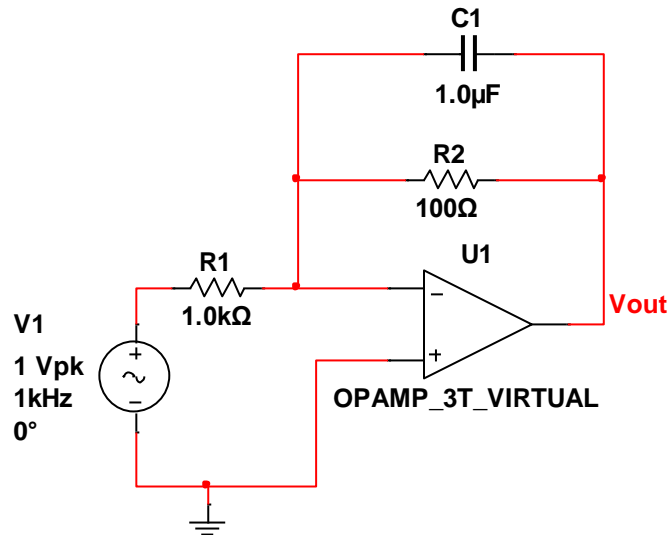

Figure 2: Active lowpass Filter
1. Build the circuit in Figure 2 in MultiSim and run an AC analysis from 10 Hz to 100 kHz, what is the cut off frequency and gain? You should include the gridlines and reverse the plot to have a white background. Include the plot in your prelab submission. Review the end of Lab 9 if you don't recall how to run an AC analysis in MultiSim.